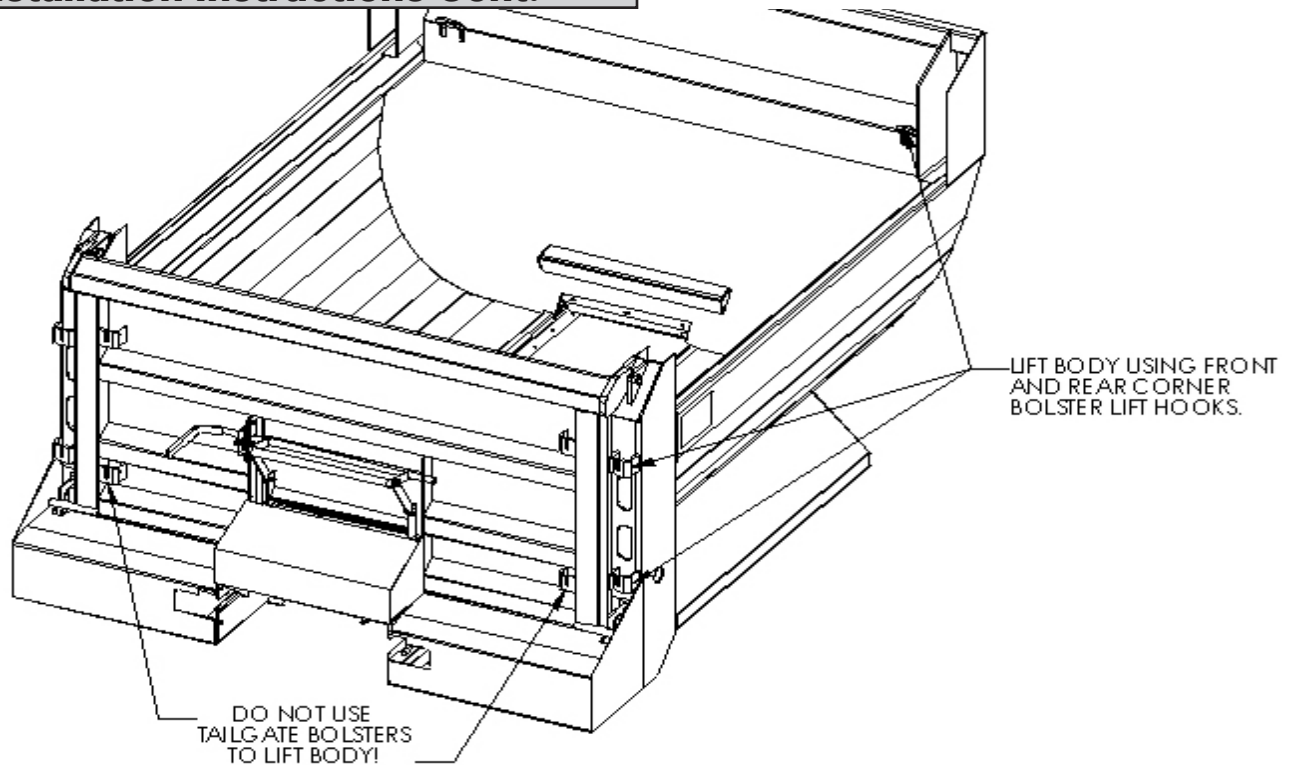

Figure 3 – Lifting XT3
8. Hoist the dump body onto the truck using the front lift hooks and rear corner bolster lift hooks shown in Figure 3. Center it from side-to-side and position the rear of the Hinge Block flush with the rear of the dump body's sills.